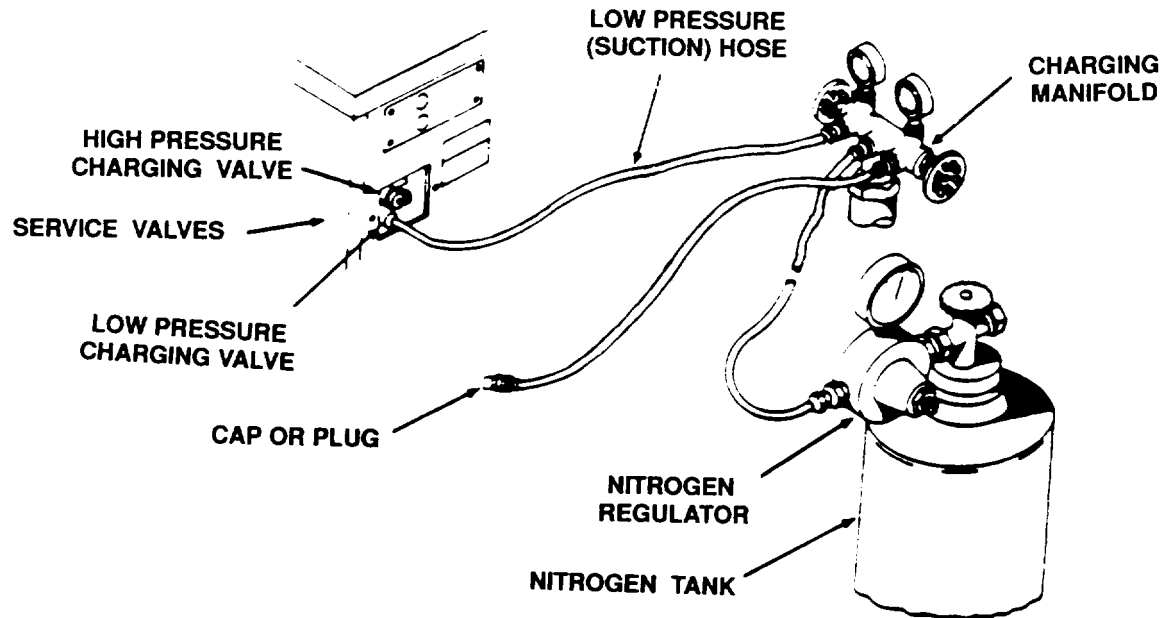

Figure 5-5. Nitrogen Tank Connection.
a. PREPARATION-SETUP. See Figure 5-5.